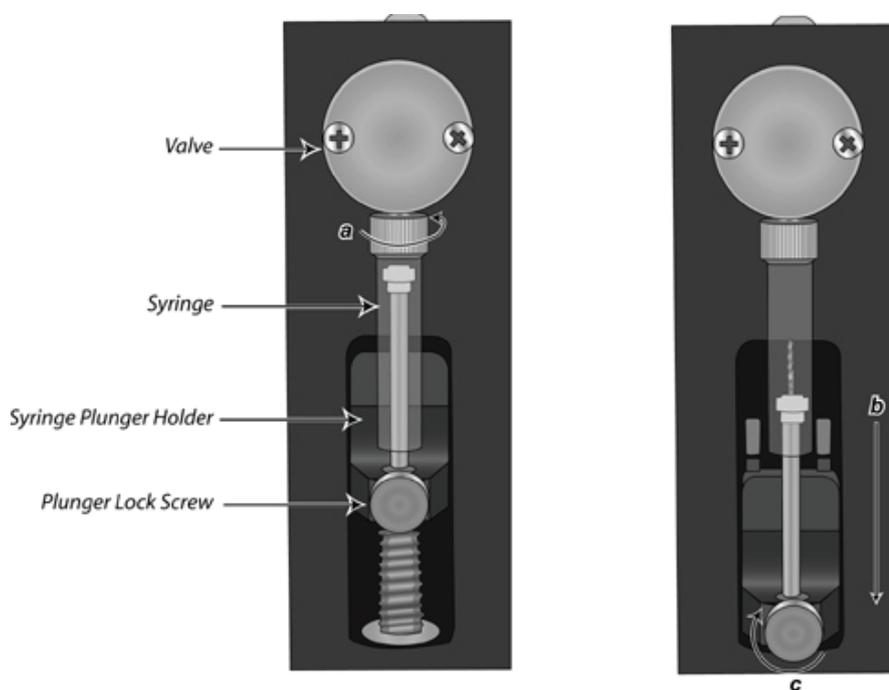

Figure 5–52 Replacing the dispenser syringe
3. Loosen the plunger lock screw (Figure 5–52) approximately three full turns clockwise (Figure 5–52, item c).
4. Pull the plunger holder arm (Figure 5–52) firmly down (Figure 5–52, item b).
5. Unscrew the syringe from the valve (Figure 5–52, item a).
6. To fit the new dispenser syringe, screw the syringe into the valve, pull the syringe plunger down to the plunger holder arm, and screw the syringe into place. Make sure the plunger lock screw is securely tightened (Figure 5–52).
To replace the 3-port valve (Figure 5–52 and Figure 5–53), it is recommended that you contact authorized technical service: